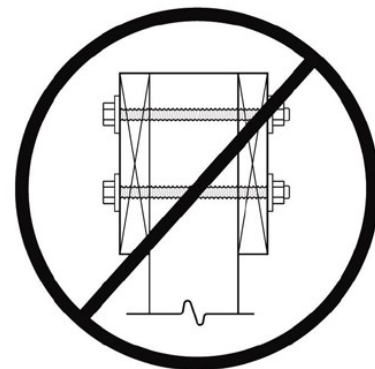
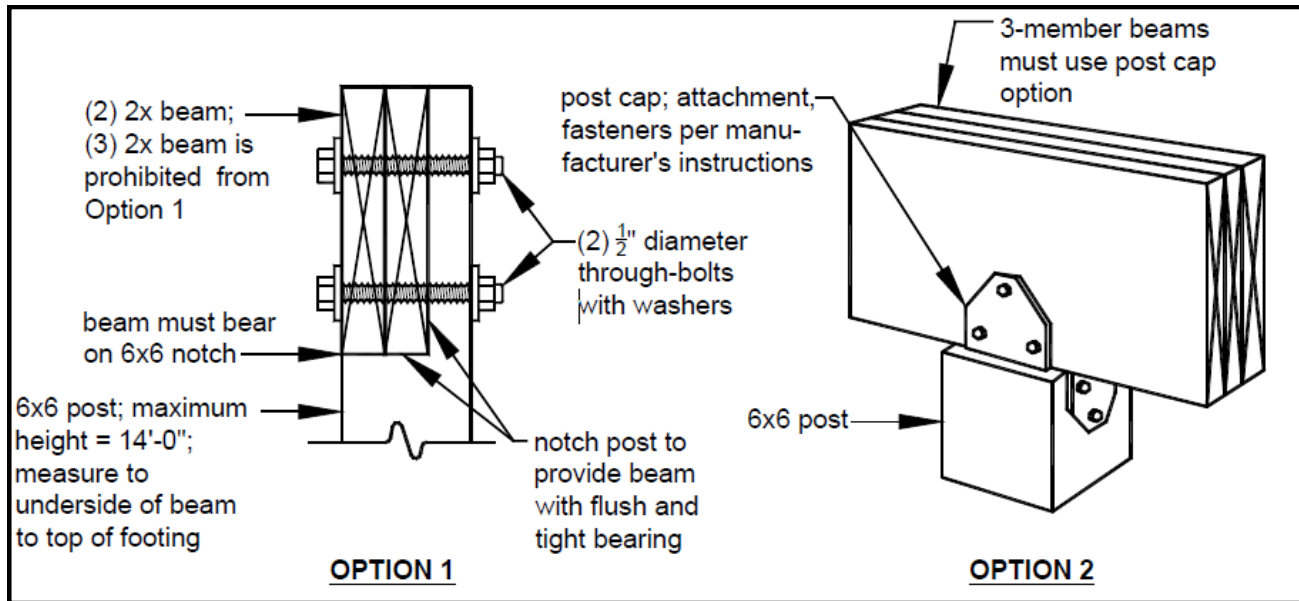

Figure 9:
Figure 10: Post-To-Beam Connection Options
All deck posts shall be **6x6** with a maximum height of 14'-0" measured from the top of the footing to the underside of the beam. The beam shall be attached to the post by one of the two methods shown in **Figure 10**. Attachment of the beam to the side of the post without notching is prohibited; see **Figure 9**
The post cap shown in **Figure 10**, Option 2, shall be specifically designed for (2) 2x or (3) 2x beams and 6x6 posts with a minimum downward allowable load capacity of 5,000 lbs. Attachment shall be per manufacturer's instructions. Post caps shall be galvanized per the requirements on page 2.